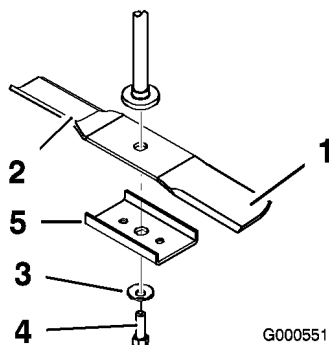

Figure 42
Hold the blade end using a rag or thickly-padded glove. Remove the blade bolt, curved washer, stiffener (52 inch decks only) and blade from the spindle shaft (Figure 42).
1. Install the blade onto the spindle shaft with the stiffener (52 inch decks only) as shown in Figure 42.
2. Install the curved washer (cupped side toward the blade) and blade bolt (Figure 42). Torque the blade bolt to 35-65 ft-lb (47-88 N·m).